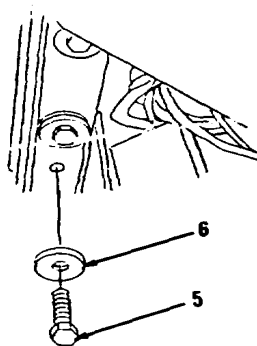

Figure 9-3.
7. Install six bolts (7) and retainers (6, Figure 9-3), starting six bolts (5) by hand and partially tightening. Holes for two bolts (4) must be aligned before bolts (5) can be tightened to proper torque.